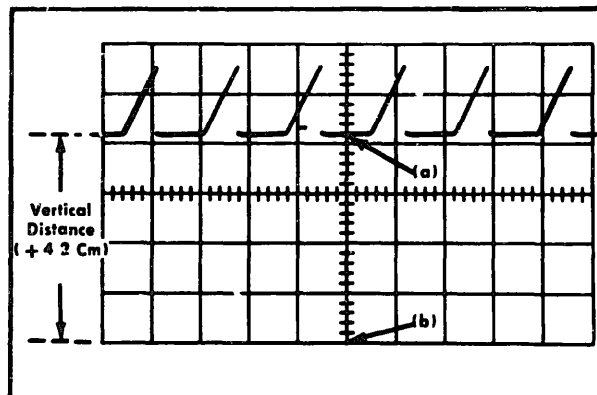

Fig. 3-2. Measuring instantaneous voltage with respect to some reference.
3. Set the Channel 1 AC-DC-GND switch to GND and position the trace (with the Channel 1 POSITION control) to one of the horizontal graticule lines such as point (b) in Fig 3-2 This line will be used as a ground (or zero) reference line In any case, the reference line chosen will depend upon the polarity and DC level of the signal to be measured Do not move the Channel 1 POSITION control after the reference line has been established
7. Measure the vertical distance in centimeters from the ground (zero) reference line established in step 3 to the pair. on the waveform that you wish to measure, such as between (a) and (b) in Fig 3-2 If the PULL TO INVERT switch is pushed in and the point on the waveform is above the reference line, the polarity is indicated to be positive (+) If the point is below the line, the polarity is negative (-) If the PULL TO INVERT switch is pulled out, the indicated polarities will be reversed.
8. Multiply the measured distance by the setting of the VOLTS/CM switch and the attenuator factor, if any, of the probe This is the Instantaneous DC level of the point measured For example, assume the vertical deflection is 4.2 cm above the reference line (see Fig. 3-2) using a 10X attenuator probe with the PULL TO INVERT switch pushed in and the VOLTS/CM switch set to 2. Substitute these values in the following formula.